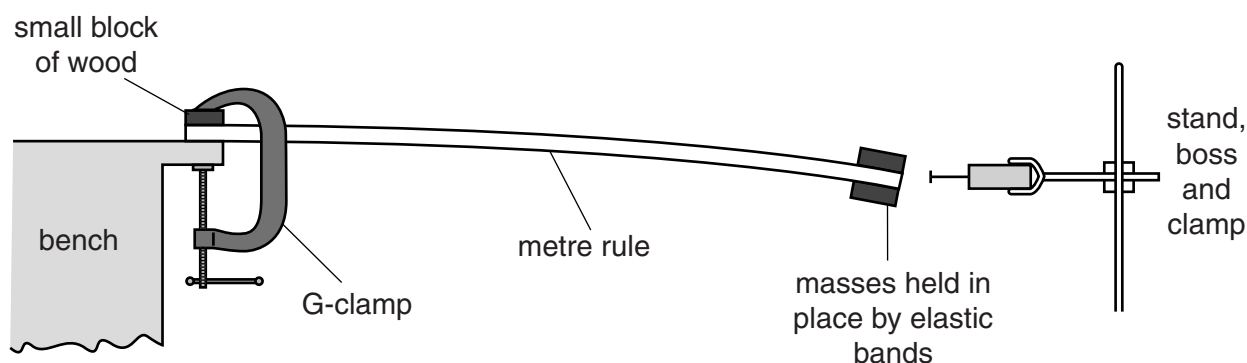

Fig. 2.1
2. The Supervisor should clamp the metre rule at the edge of the bench, as shown in Fig. 2.1. The rule should be clamped at the 5.0cm mark so that 95.0cm of the rule overhangs the bench. The edge of the block of wood should be at the 5.0cm mark above the rule and the edge of the bench should be at the same point below the rule, so that a well defined edge is produced. The block of wood should be held in place by the G-clamp. During the experiment, the candidate will move the rule so that the edge is at the 15.0cm mark on the rule.
5. The Supervisor should clamp the optics pin and cork horizontally at the equilibrium height of the masses attached to the rule, as shown in Fig. 2.1. If stands of sufficient height are not available, then the stand may need to be placed on a laboratory stool.
6. At the changeover the Supervisor should re-clamp the metre rule at the 5.0cm mark on the rule, and place the optics pin and cork horizontally, as shown in Fig. 2.1.